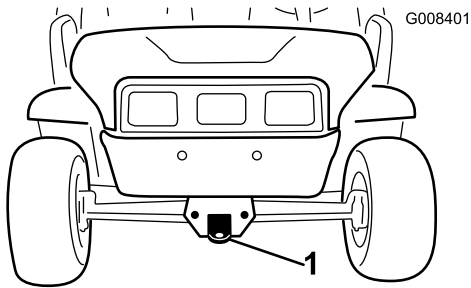
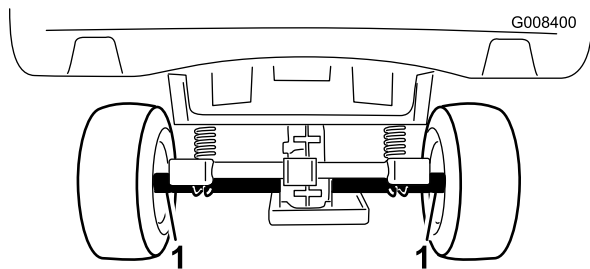

Figure 21
Figure 22
Use a trailer to move the machine a long distance. Make sure that the machine is securely bound to the trailer. Refer to Figure 22 and Figure 21 for the location of the tie-down points on the machine.
2. Affix a tow line to the tongue at the front of the machine's frame (Figure 21).